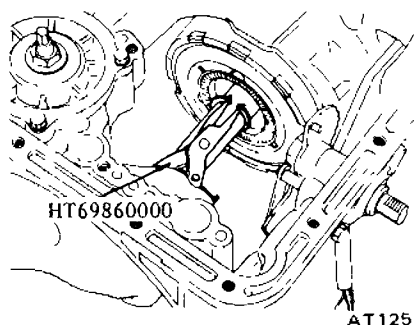

Fig AT-59 Removing snap ring
- 12 With the aid of Snap Ring Remover HT69860000, pry snap ring off output shaft. See Figure AT-59.